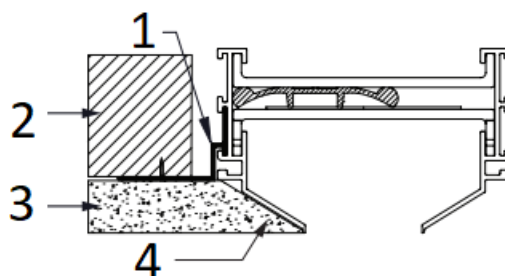

Figure 9. Drywall Installation
- For border EE only, the leading edge of sheet rock or wood ceiling must be trimmed at a 30° angle to match the diffuser as shown in Figure 9.